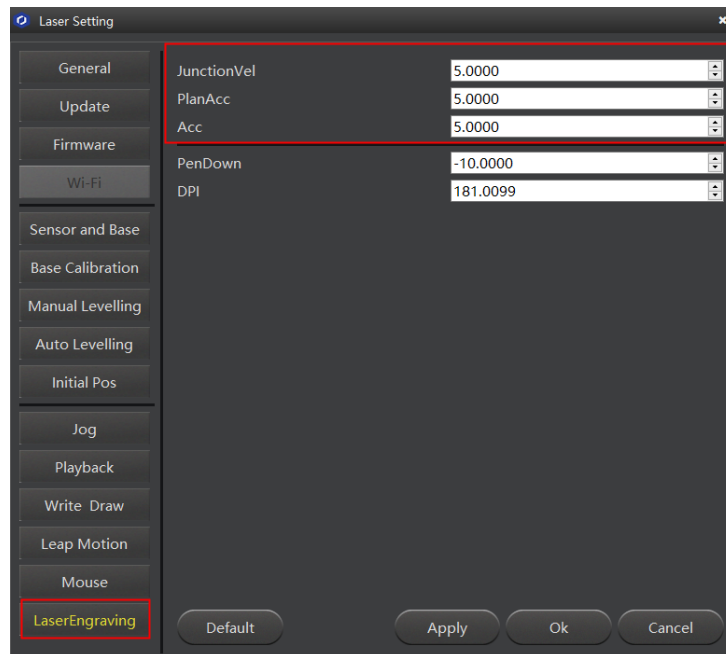

Figure 5.98 Set the parameters of laser engraving
2. Set the **JunctionVel** (junction velocity), **PlanAcc** (linear acceleration), and **Acc** (**acceleration**), for example, set all to 5, as shown in Figure 5.98.